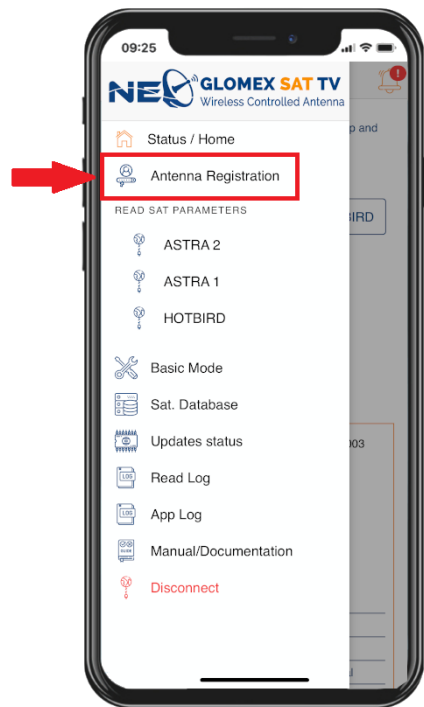

Fig. 46
- Click on "Antenna Registration" (Fig. 46).